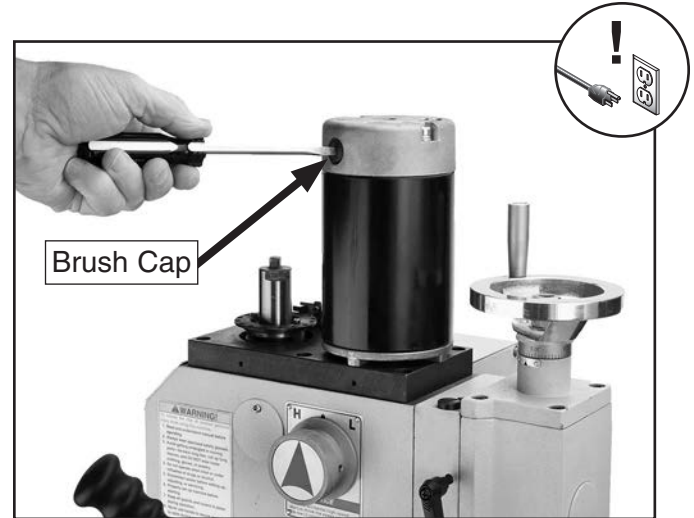

Figure 47. Removing motor brush cap.
3. Unscrew one of the brush caps (see **Figure 47**).